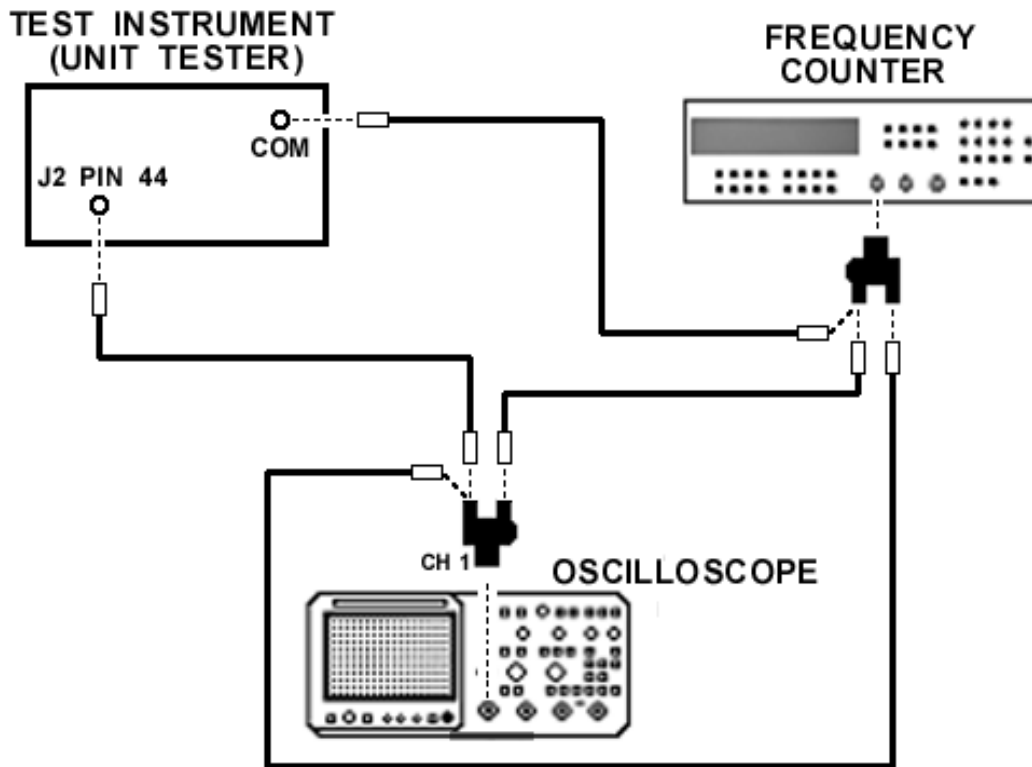

Figure 6. Display control - equipment setup.
- (1) Connect equipment as shown in figure 6. Do not disconnect equipment connected in figure 1.
- (2) Set **DISPLAY UPDATE** switch to **ON**.